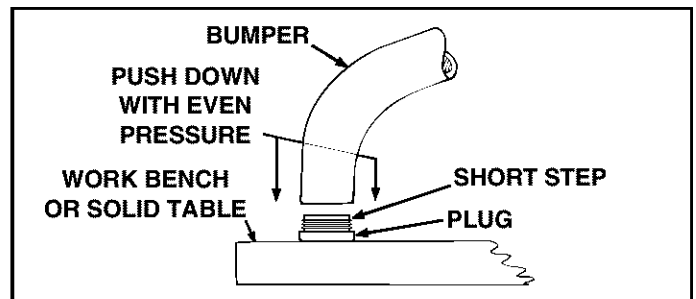

FIGURE 1
- Place a plug on a work bench or solid table. Set end of bumper onto plug until it rests on short step of plug. Using even pressure, push down on bumper until end of bumper slips over plug. Assemble all four plugs. See figure 1.